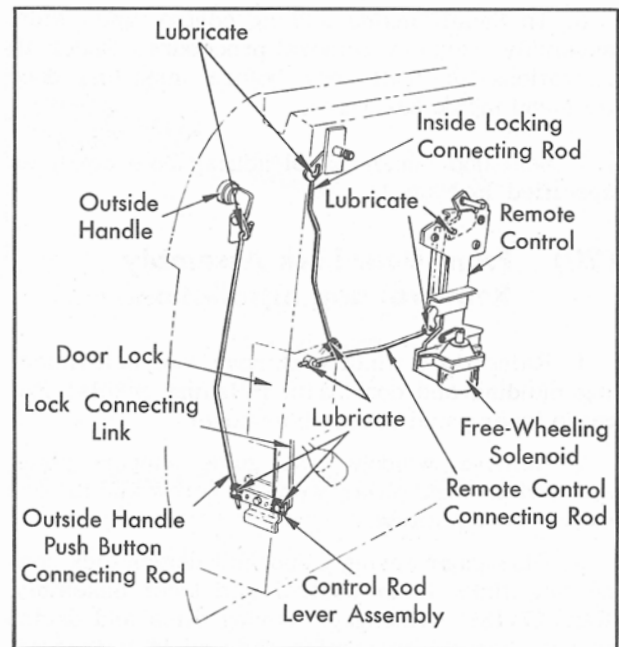

Fig. 17-23 Rear Door Locking Mechanism
2. Disengage spring clip and detach outside handle push button connecting rod from control rod lever, Fig. 17-23.
3. Disengage spring clips and detach remote control connecting rod and inside locking connecting rod from lock. Detach lock connecting link from control rod lever assembly, Fig. 17-23.
9. Lubricate attaching points of lock connecting links and rods with Lubriplate, Fig. 17-23.
2. Disengage spring clip and detach inside locking control connecting rod from lock, Fig. 17-23.
2. Disengage spring clips and detach lock connecting link and outside handle push button connecting rod from control rod lever assembly, Fig. 17-23.
4. Disengage spring clip and detach remote control connecting rod from remote control, Fig. 17-23.
7. Lubricate attaching points of remote control connecting link and rod with Lubriplate, Fig. 17-23.